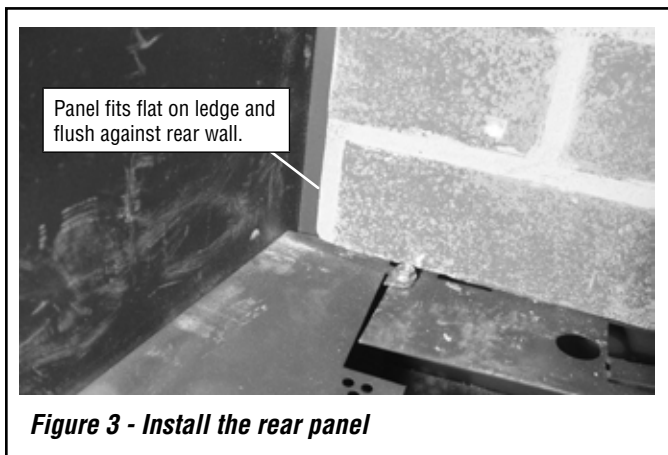

**Figure 1 - Remove the lintel (specified models only)**
4. **Aries™ and DRT/DRC2000 models only** - Remove the lintel by removing three screws (*see Figure 1*).